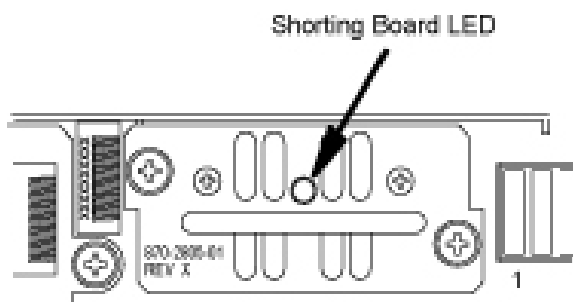

Figure 41: Shorting Board Faceplate, Normal Mode
4. Turn the Shorting Board over and reinsert the board into its slot. Note the orientation of the Shorting Board LED (see Figure 41: Shorting Board Faceplate, Normal Mode).